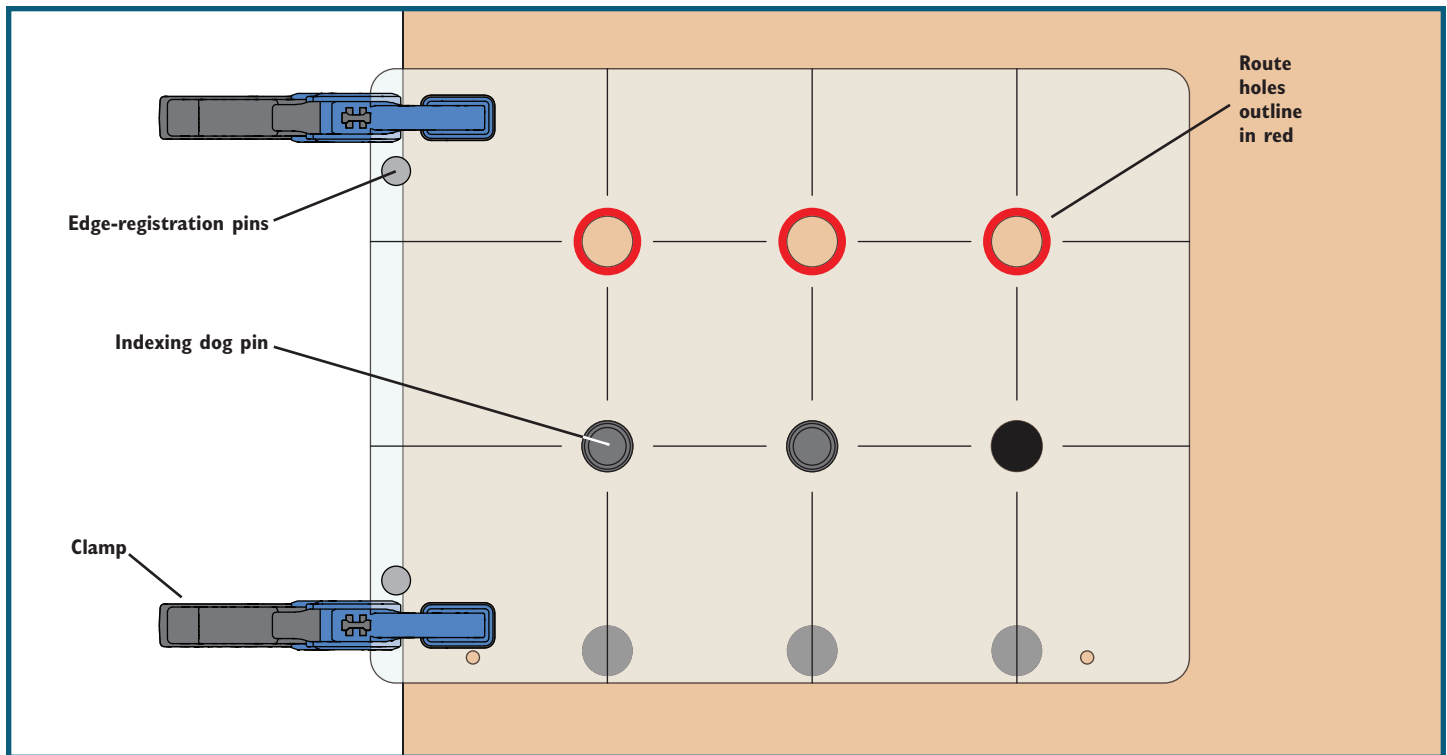

Fig. 2
12. Press two indexing dog pins tightly into the overlapping holes to perfectly position the template, and then secure the template further with clamps. **Fig. 2.**